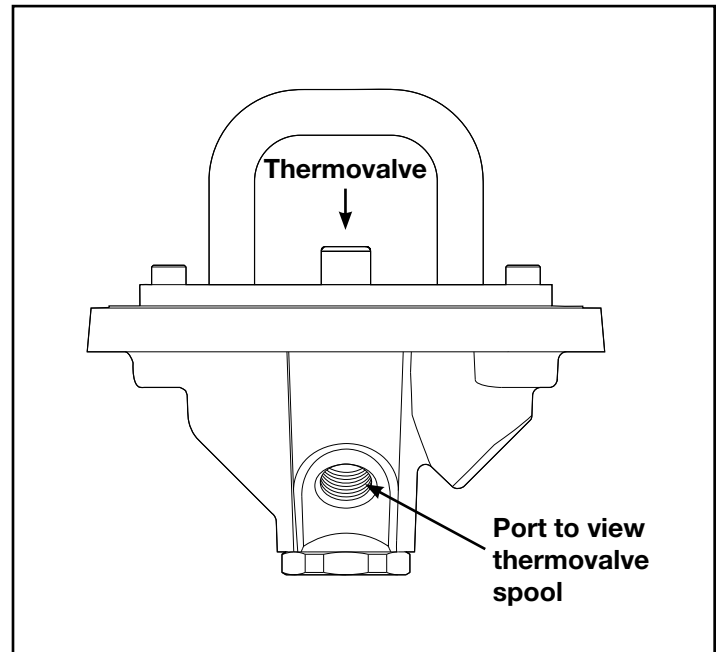

Figure 1
4. While looking into the fluid port of the bottom plate (see Figure 1), run cold water over the thermovalve for 30 seconds, then run hot water over the thermovalve to determine whether the thermovalve spool is opening and closing.